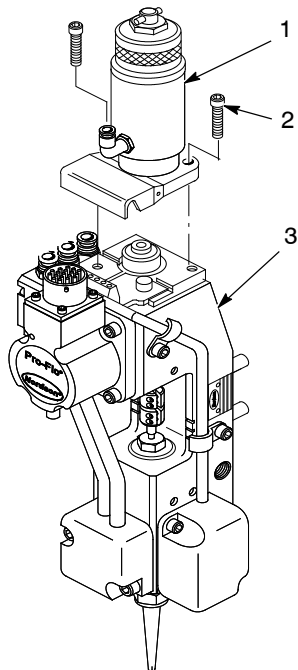

Figure 8 Replacing the Spring Closure Assembly
5. See Figure 8. Remove the screws (2) that secure the spring closure assembly (1) to the gun body (3).